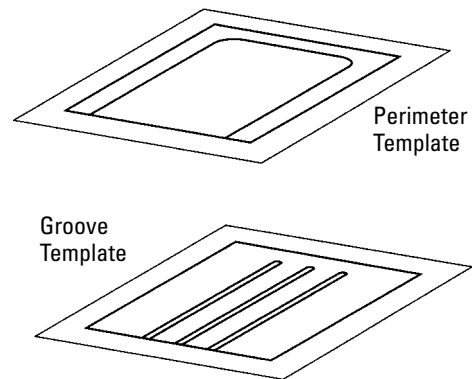

Figure 34
1. Make a full-scale drawing of the drainboard design on paper (see Figure 34).